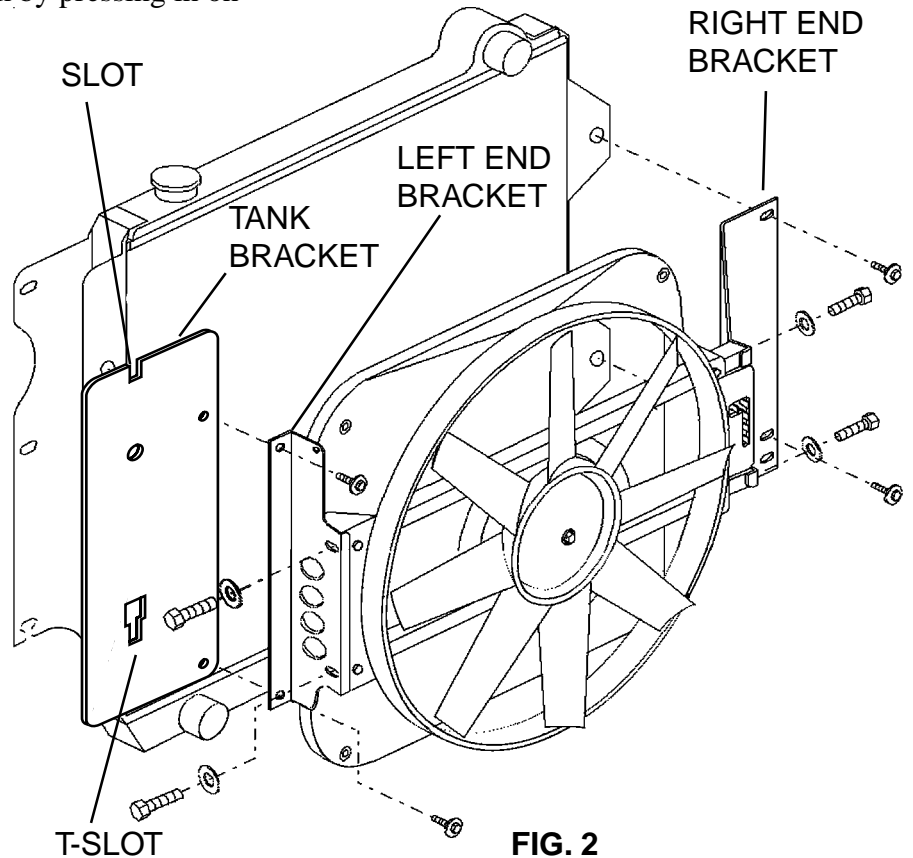

FIG. 2
2. Screw right end bracket* to fan as shown using 3/8" bolts and flat washers supplied. Do not tighten yet. See FIG. 2.